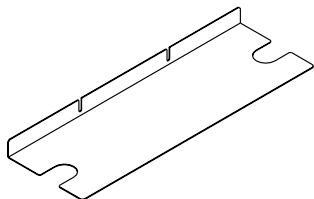

Figure 2-3. Ground Plate (PN 58G5334)
1. \_\_\_\_ Obtain from the shipping group two ground plates (PN 58G5334). See Figure 2-3.